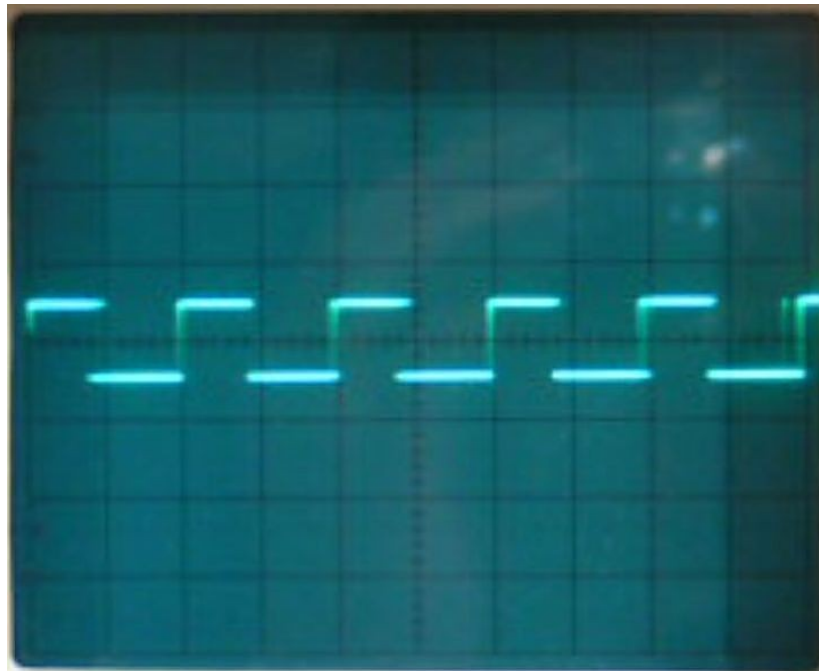

Figure-2: Data slicer output with properly aligned VCO receiver trimmer coil.
5. Apply signal generation to the radio, reducing the deviation to approximately 3-kHz and making certain that the signal is fairly strong (e.g. 100 microvolts). Set the D4-10 bandwidth selector to wide. A square waveform should now appear on the oscilloscope. Adjust the VCO receiver trimmer coil RL1 (RL2 if aligning channel-2) for an equal duty cycle, in effect the lower and upper edges of the waveform should be the same width. The receiver channel is now on frequency. Figure-2 (see page 4) illustrates the data slicer output with a properly aligned VCO receiver trimmer coil.